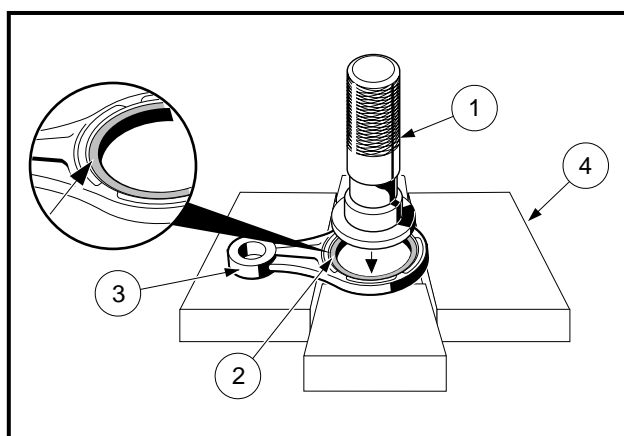

Figure 13-80 Remove Bearing From Link Rod
1. Support the link rod around the entire large end, and using a 1.97 inches (50 mm) bearing driver (1), drive the bearing (2) out of the rod (3) as shown (**Figure 13-80, Page 13-37**).